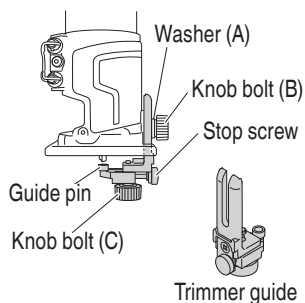

Fig. 18
- (1) Fit the trimmer guide on the base ass'y with knob bolt (B).
- (2) Loosen knob bolt (B) to move the trimmer guide up and down.
- (3) Loosen knob bolt (C) and turn the stop screw to move the guide pin. (Fig. 18)